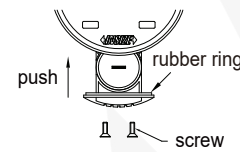

fig.3
---Close the battery cover, screw in locking screws(fig.3). Please don't remove the rubber ring, otherwise affect the product's waterproof protection.